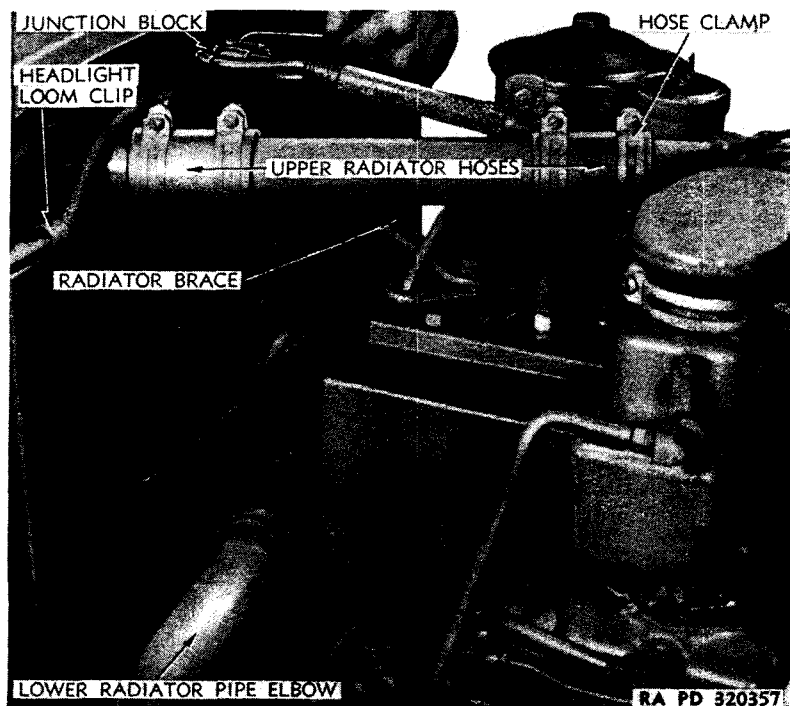
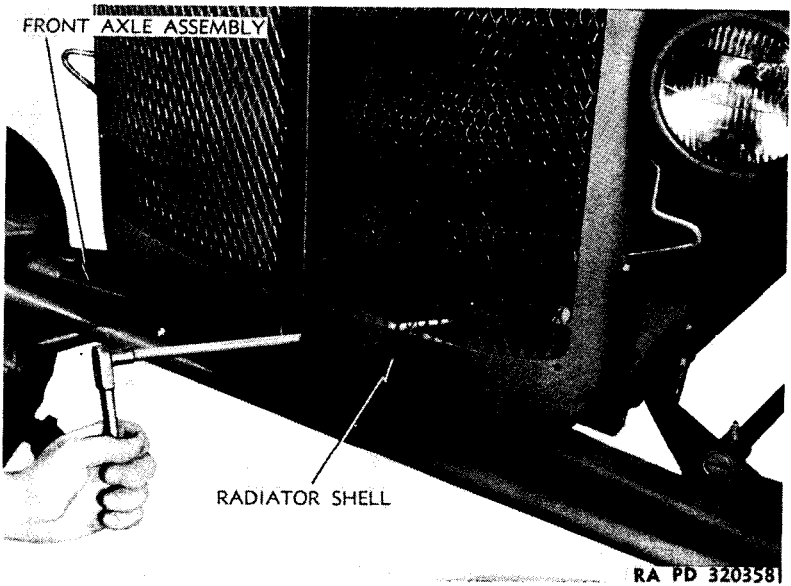
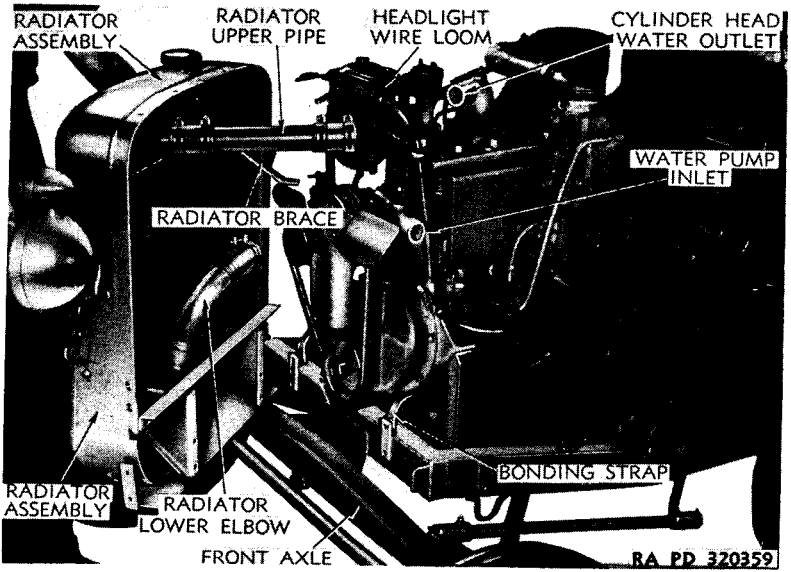

Figure 56—Disconnecting Wires from Junction Block
Figure 57—Removing Cap Screw from Radiator Support
Figure 58—Removing Radiator, Shell, and Support Assembly
- (1) Remove engine hood. See paragraph 125 b.
- (2) Remove right and left lower hood side plates. See paragraph 125 b.
- (3) Disconnect wires from junction block on radiator shroud (fig. 56).
- (4) Drain cooling system. See paragraph 72 b.
- (5) Loosen rear upper hose clamp screw.
- (6) Loosen hose clamp screw on lower radiator hose where it connects to water pump.
- (7) Reach through crank hole in radiator shell with extension and flex socket wrench, and remove two bolts and two cap screws holding radiator support to front of frame (fig. 57). Remove nut holding radiator top brace to front center cylinder head stud. Lift radiator, shell, headlights, and radiator support assembly from tractor as a unit (fig. 58).
- (8) Remove two bolts holding radiator support to radiator shell.
- (9) Disconnect headlight wires from junction block. Pull wire looms from clips.
- (10) Remove radiator and support from shell.
- (11) Remove two nuts and washers holding support assembly to radiator. Remove support assembly, antisqueak strip, and filler strip from radiator attaching bolts.